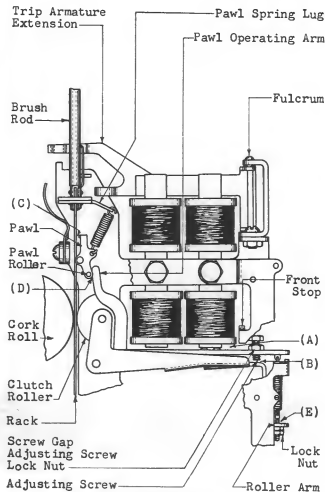

Fig. 11 - Downdrive Armature in Fully Operated Position (Later Type Pawl)
- 2.16 Clearance Between Front Stop and Armature - Fig. 11 (A): With the armature fully operated there shall be clearance between the armature and front stop. This requirement applies to 1, 2, 3, 4 and 6 type clutches only, since there are no front stops on 5 and 7 type clutches.
- 2.17 Gap Between Screw Gap Adjusting Screw and Roller Arm - Fig. 11 (B): With the clutch downdrive fully operated, when the screw gap adjusting screw is closest to the roller arm, the gap between the tip of the screw and the roller arm, shall be
- 2.19 Pawl Clearance - Fig. 11(C): With the clutch roller pressed against the rack and the rack pressed against the cork roll with just sufficient pressure to drive the rack down without slipping, the pawl shall not touch the rack in any vertical position the rack may assume.
- *2.21 Pressure of Pawl Roller Against Pawl Operating Arm - Fig. 11 (D): The pressure of the pawl roller against the operating arm shall be
- 2.22 Position of Helical Spring Adjusting Stud (Turnover Only) - Fig. 11 (E): After all adjustments have been made, there shall be at least one thread showing above the roller arm to provide for further tensioning of the spring. Gauge by eye.